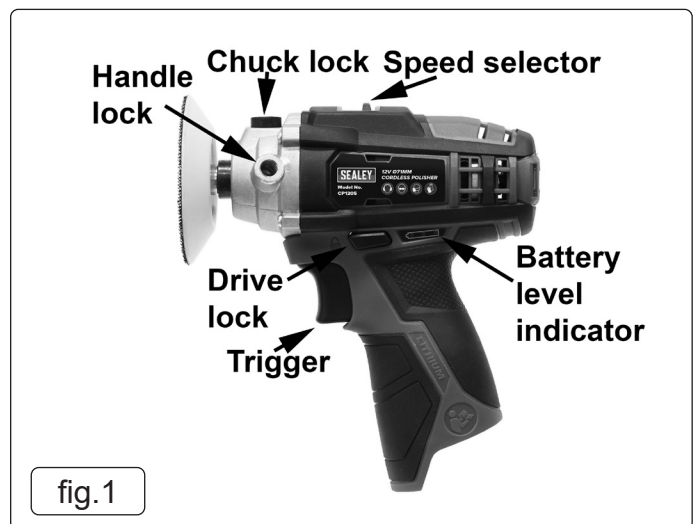

fig.1
- 4.1.1. To attach/remove the applicator pad depress the chuck lock button behind the chuck (fig.1) and screw/unscrew the applicator pad.
- 4.1.3. Attach the battery to the sander. The battery charge level indicator LEDs (fig.1) show charge (three green lights indicate full charge).
- 4.1.4. Set the required speed by use of the speed selector switch (fig.1).
- 4.1.5. Unlock the drive mechanism by use of the slide switch (fig.1).
- 4.1.6. Grip the side handle (not shown) and start the polisher by gentle and slow application of pressure on the trigger (fig.1).
- 4.1.7. Increase/decrease the speed of the polisher using the variable speed control trigger (fig.1) to suit the task.